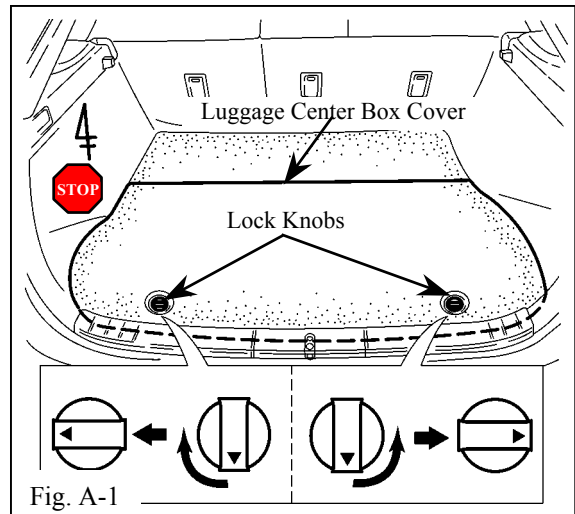

Fig. A-1
1. Lift up the luggage center box cover (rear floor board no. 2). (Fig. A-1)